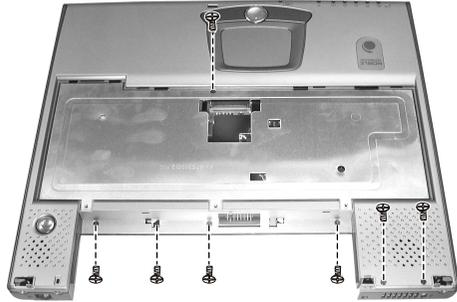

Figure 2-24 Unscrew seven screws
6. Carefully, turnover the notebook. Then remove seven screws. (Figure 2-24)